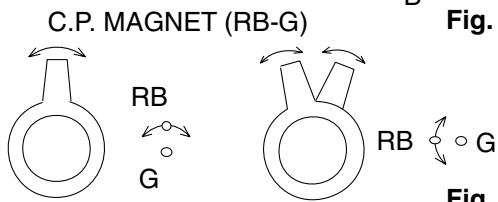

Fig. 10
3. Align red / blue with green dots at the center of the screen by rotating (RB-G) C.P. Magnet. (See Fig. 10.)